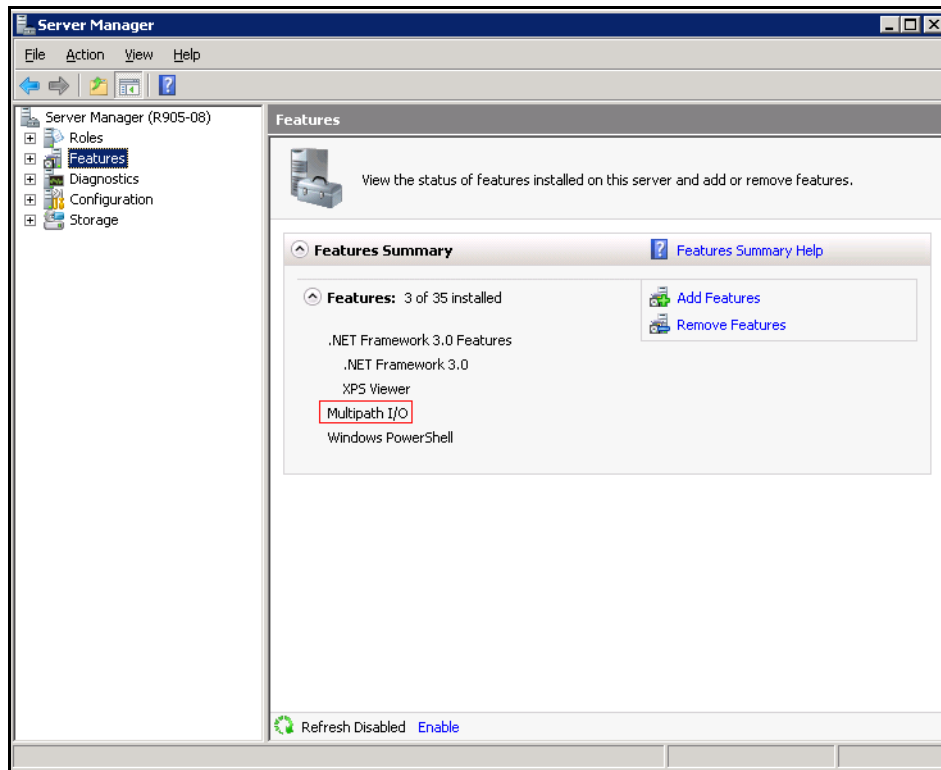

Figure 2-1: Server Manager Window with Multipath I/O Displayed
- c. Confirm that **Multipath I/O** appears under the Features group (see Figure 2-1 on page 2-8). You may need to expand the group to see all installed features.